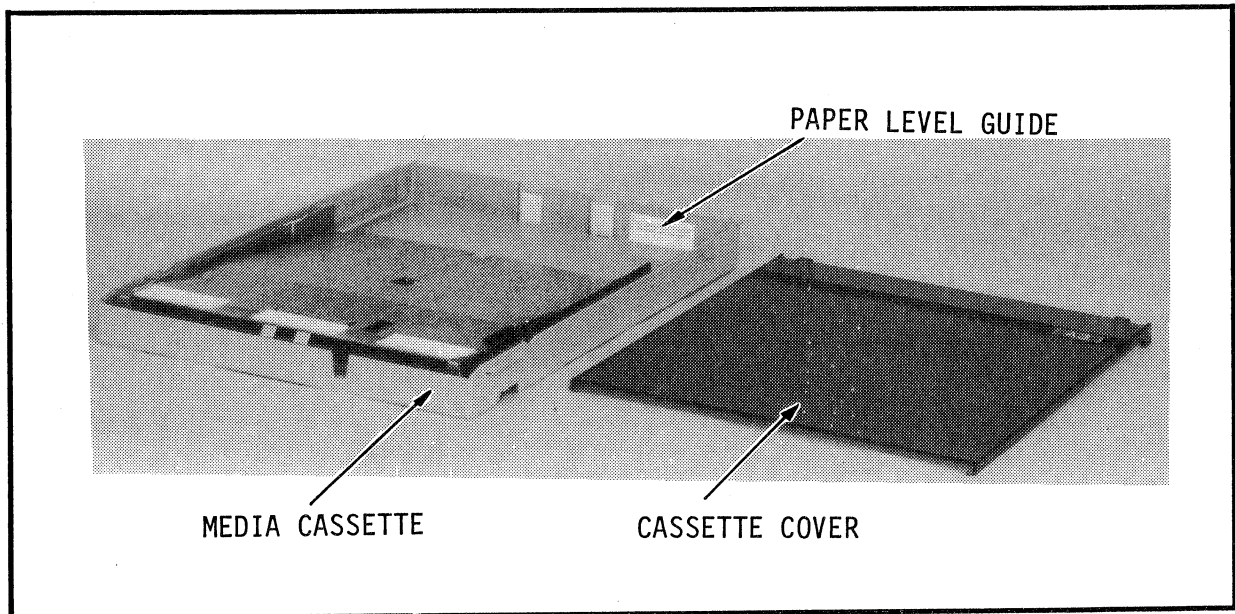

Figure 3-8. Media Cassette
1. Lift the media cassette from its mounting slot and set it on a flat, clean surface. Refer to Figure 3-8.
2. Open and remove the cassette cover (Figure 3-8).
*Note: Do not put more than 150 sheets (approximately 0.44 in/11.2 mm thick) of paper in the media cassette at one time. A line indicating the maximum allowable paper level is located inside the cassette (Figure 3-8).*